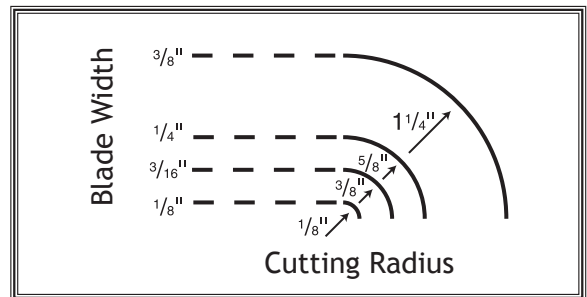

Figure 37. Recommended cutting radius per blade width.
- **Curve Cutting:** Use the chart in **Figure 37** to determine the correct blade for curve cutting. Determine the smallest radius curve that will be cut on your workpiece and use the corresponding blade width.